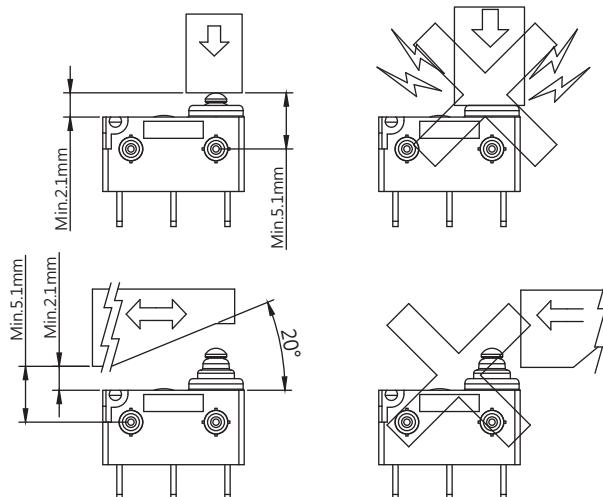

Figure-2
3. Do not exceed the end position (EP) and over travel (OT). This could cause operation failure.(Figure-2)